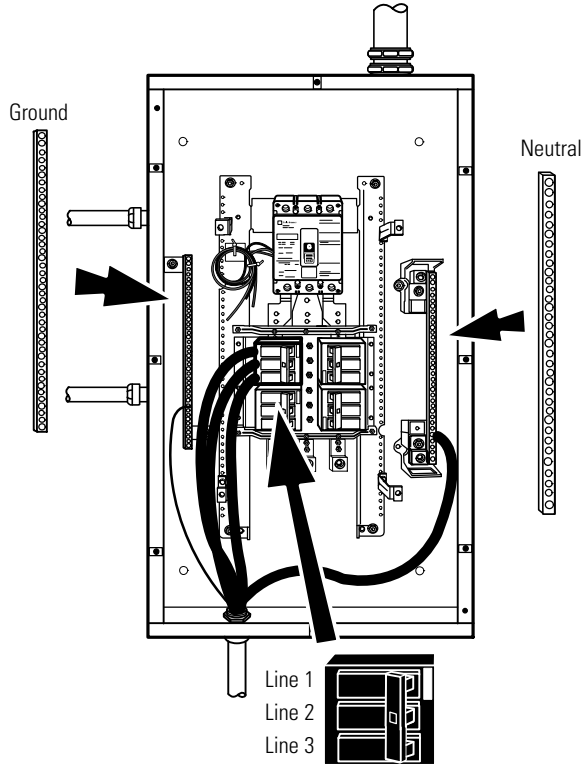

Figure 23. Version 1 UPS Output to Bypass Cabinet Wiring
14. Hardwire the output terminations from the UPS to the bypass cabinet (see Figure 23).